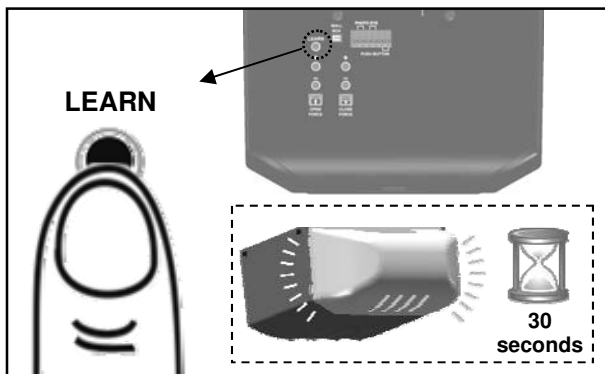

Fig.2
1. See Fig.2 to add a Transmitter. Press the "LEARN" button on the rear control panel of the Opener. The courtesy light will illuminate with an audible click*. The unit is now ready to learn a Transmitter.